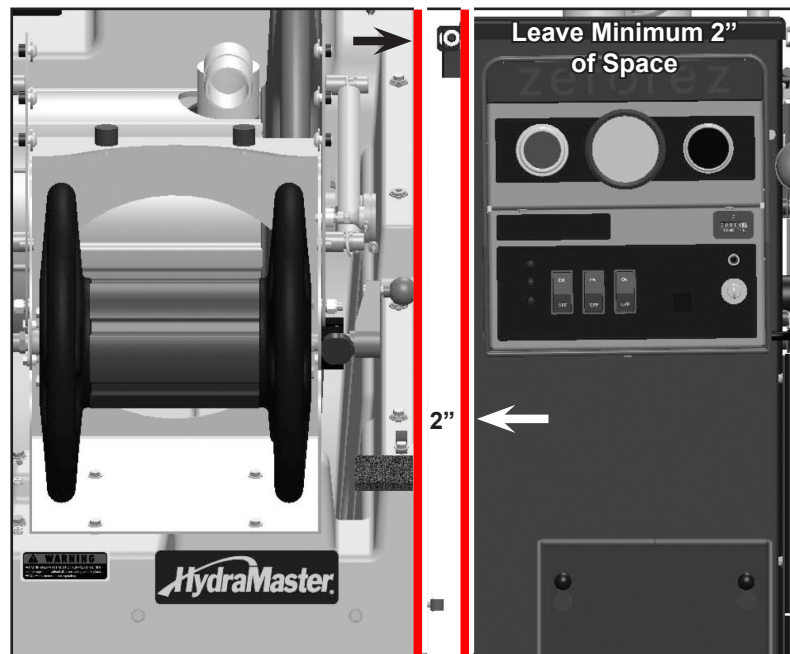

Figure 56. Leave a Minimum of 2" of Space Between Tank and CDS
3. Dry fit the HydraCradle Tank, positioning it parallel to the CDS with a minimum of 2" of space between the tank and the CDS (see Figure 56).